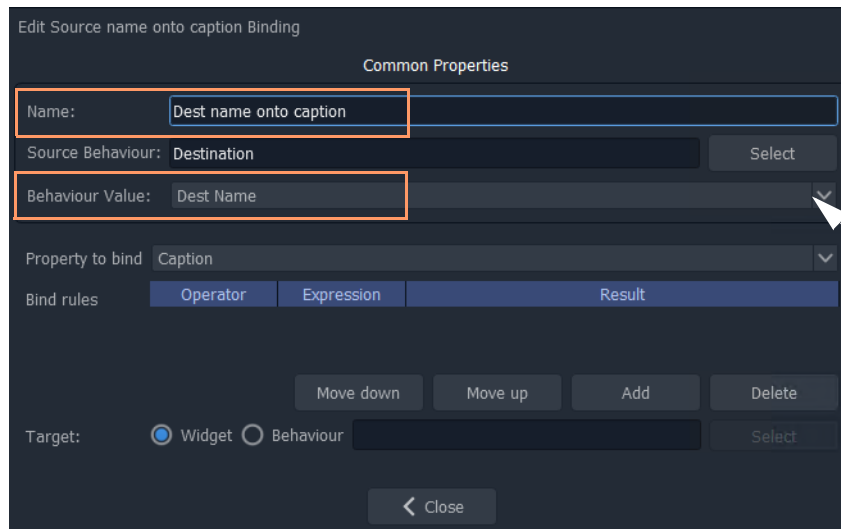

Fig. 13-58: Edit Binding Properties
- 9 Double-click on the Binding to see the Binding's properties. See Figure 13-58.